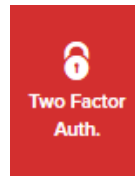

Figure 10. Partner Portal (Two Factor Auth. icon)
4. Click the **Two Factor Auth.** link on the left-hand side of the web page (Figure 10 \(page 43\)).